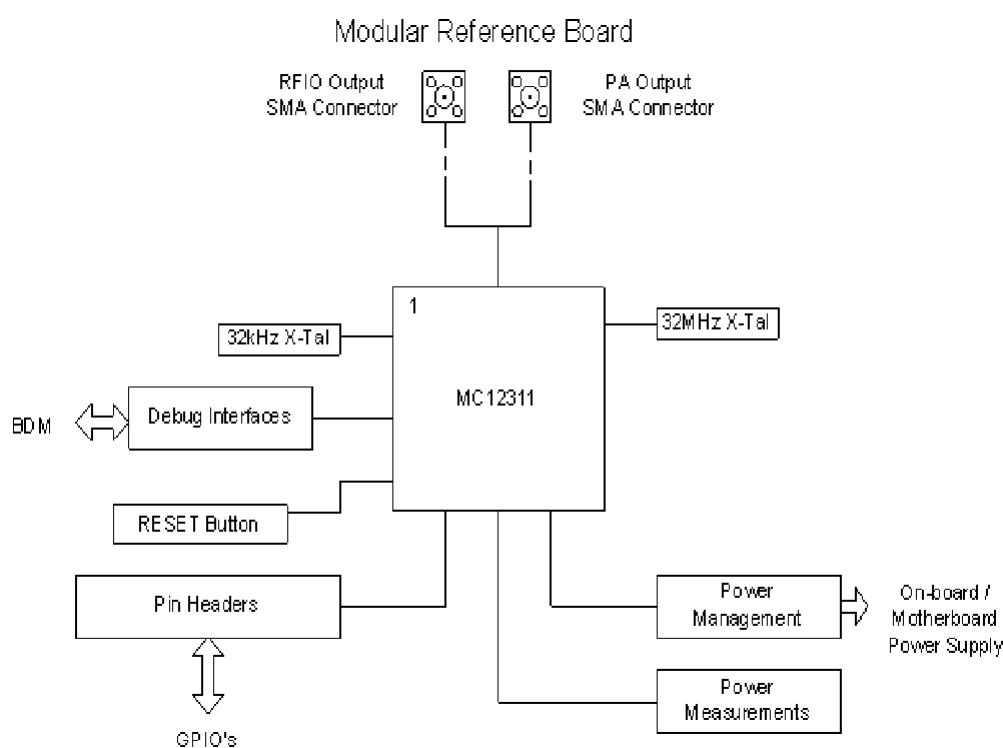

Figure 3-3. 12311-MRB Block Diagram
- Figure 3-3 for the functional blocks